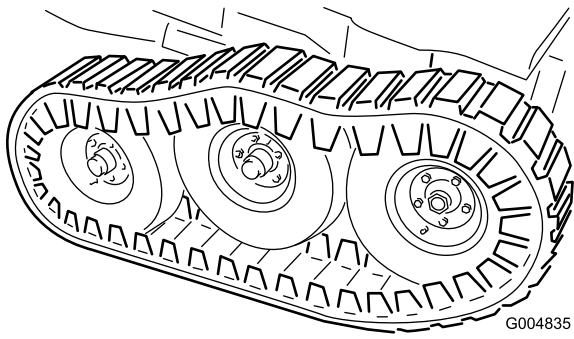

Figure 56
22. Lower the floor jack until the front wheels support the frame. Install the flat washers (1/2 inch) and locknuts on the bogie pivot stud (Figure 56) and torque to 102 N-m (75 ft-lb).